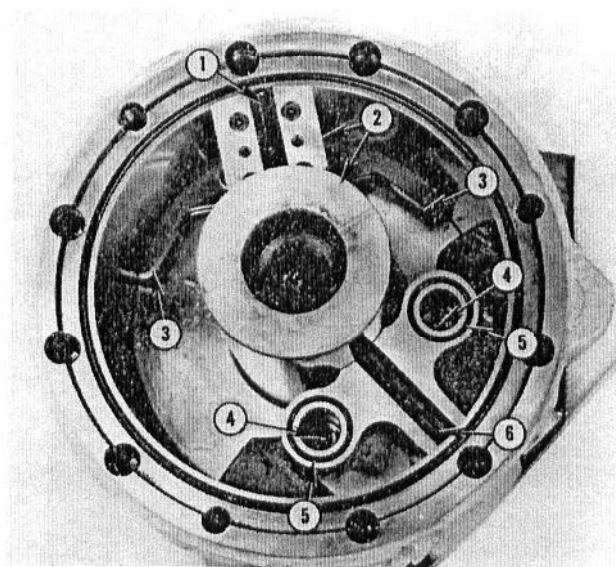

Fig. 36 — Shaft Vane Turned Slightly
NOTE: Turn shaft slightly ... but do not allow orifice plates (attached to moving vane) to catch under the barrel vane, see Fig. 36.
14. Remove the steel balls, "O"-rings, spring retainer, cushioning spools and dowel pins ... see Figs. 36 and 40.
22. Install spring retainers onto cushioning spools ... then install spools (and retainers) into their proper bores in barrel vane and drop steel balls onto top of spring retainers (in vane). See Figs. 36 and 43 ... also see Fig. 29.
23. Install new "O"-rings into top grooves of cushioning bores (in barrel vane, see Fig. 36 ... then install large "O"-ring into its barrel groove (at top plate mating surface).